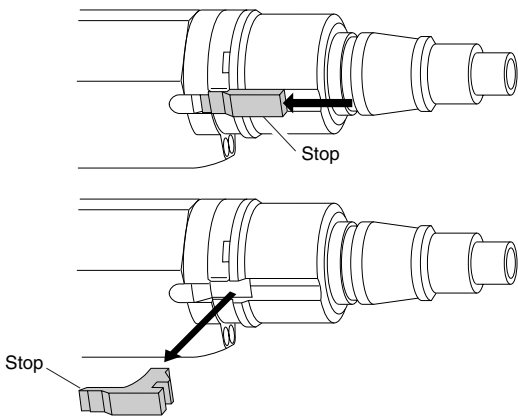

Figure 2 - Removing Stop
2. Push stop towards rear of tool and remove (see Figure 2).
4. Snap shear clip in place (see item 20, page 17, for shear clip location).
6. Replace stop. After placing stop in hole on liner, move stop towards front of tool (see Figure 2, page 18 for stop location).